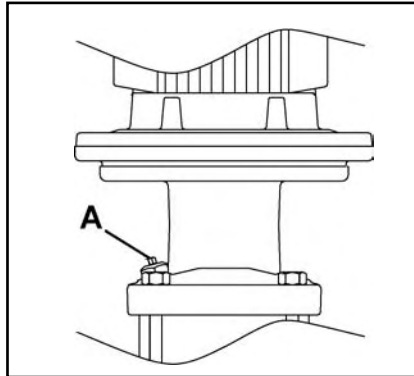

Fig. 6 17526
1. Loosen the drain plug (A, Fig. 6) one or two turns until water and air come out.